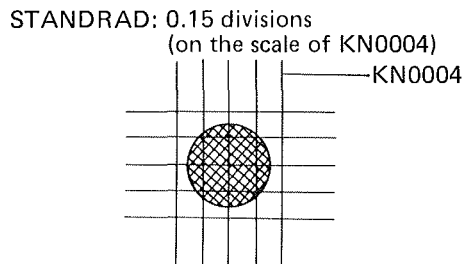

Fig. 13-12
1. The center should be adjusted within 1.5 divisions on the scale of KN0004. (See Fig. 13-12)
Refer to Fig. 13-12 (allowable decentration).